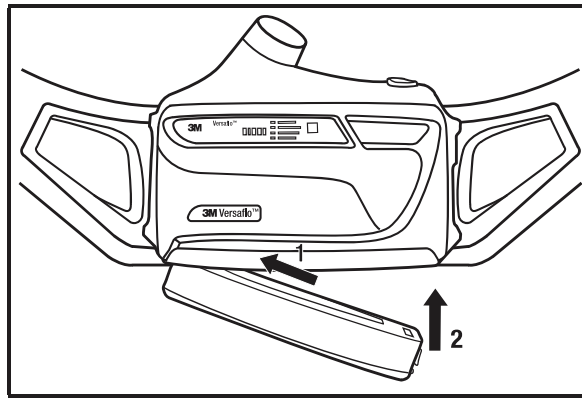

Fig. 8 Installing battery
To install a charged battery pack, hold the unit so the filter cover faces you (Fig. 8).
4. Hook the hinge end of the battery pack into its holder on the bottom of the unit (Fig. 8, step 1).
5. Push the latch side of the battery pack into the motor/blower until the latch engages with an audible click (Fig. 8, step 2).